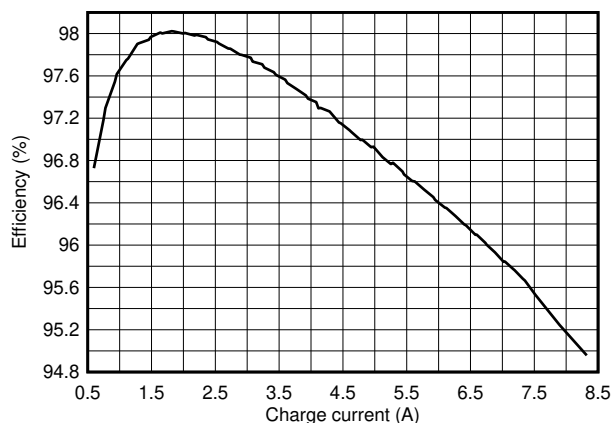

Figure 1-1. BQ25960H Battery Charge Efficiency vs. Charge Current, 2 x 22µF CFLY per Phase, VBAT = 4.0V, FSW = 500kHz
Assuming the battery is charging from an adapter, the input voltage measured at the adapter and the battery voltage measured at the battery is different from the charger Integrated Circuit (IC) input voltage and battery voltage. This is due to the resistive loss in the cabling and traces to and from the IC. More specifically, the IC input voltage is lower than the adapter voltage and the IC battery voltage is higher than the measured battery voltage at the terminals. Either or both of these incorrect measurements lower efficiency. For a sample efficiency curve for the BQ25960H, see Figure 1-1.